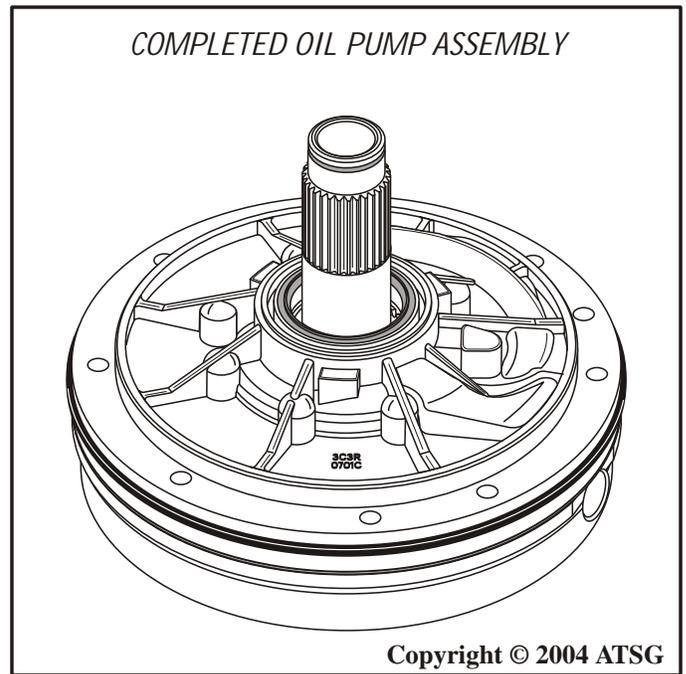

Figure 95
28. Set the completed oil pump assembly aside for the final assembly process (See Figure 95).